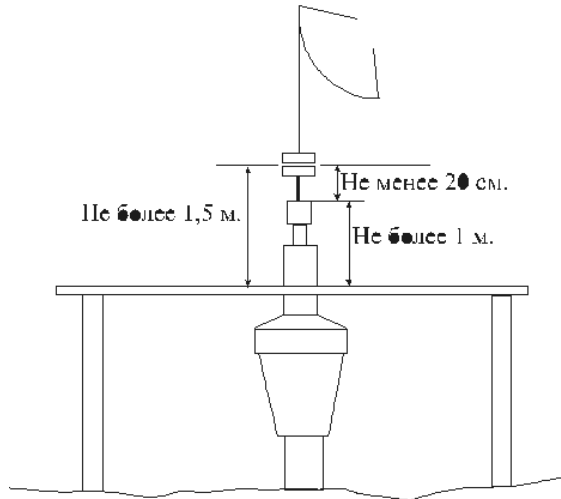

Figure 2. Wellhead equipment
- The service platform shall comply with the requirements of the "Safety Rules in Oil and Gas Industry". Scheme of the platform is shown in Figure 2.